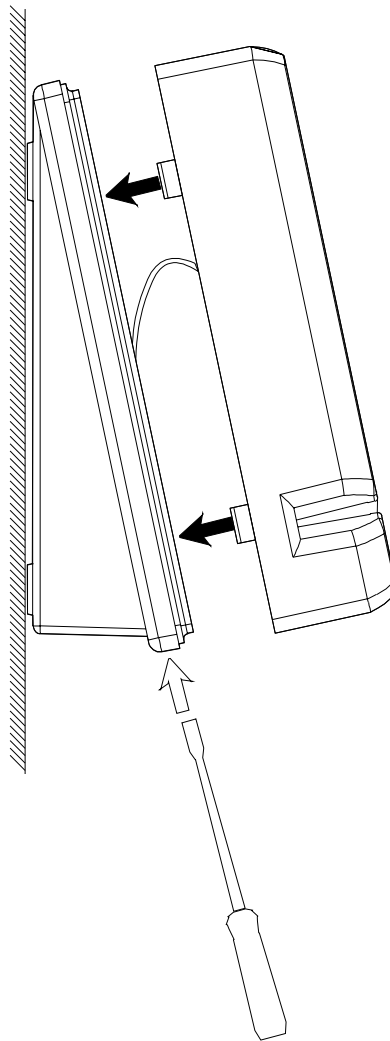

Figure 17. Closing the Terminal (Wall-Mounted Assembly)
2. Insert the upper shell as indicated in Figure 17.